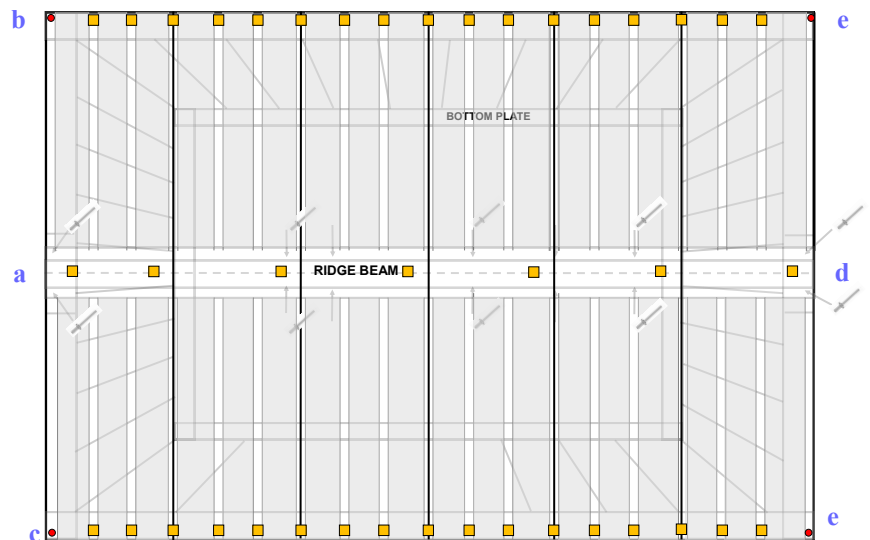

fig.2
- Rivet the Ridge Flashing to the centre of the roof using 10 x rivets as shown (fig.2).